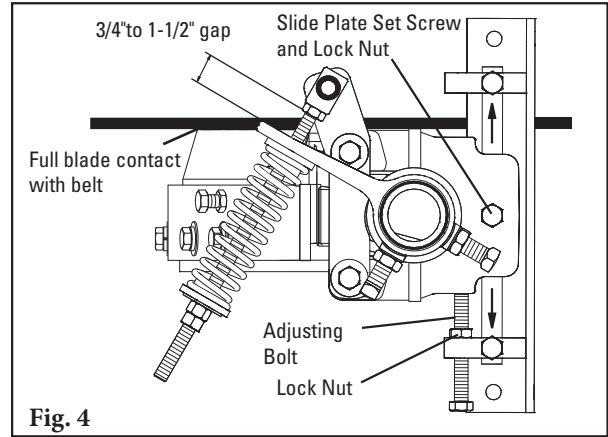

Fig. 4
- a. Loosen slide plate set screws and lock nuts. Adjust by turning adjusting bolts either up or down (Fig. 4).
- c. Please note, when fully tensioned there should be approximately 3/4" to 1-1/2" of space between the torque arm and pivot block (Fig. 4).